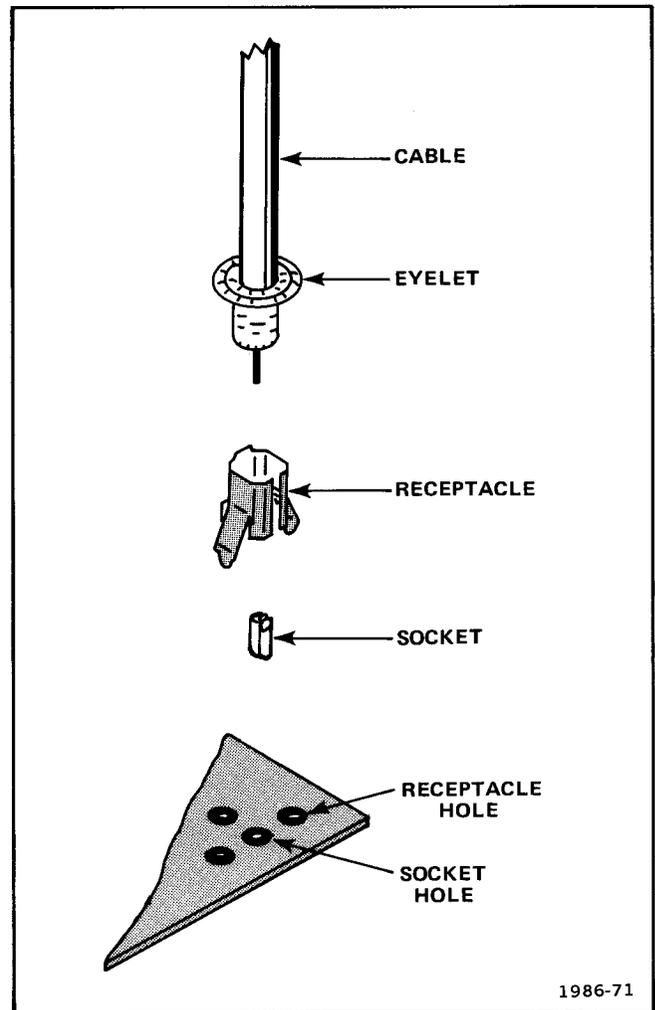

Fig. 4-8. Coaxial end-lead connector assembly.
4. Note wire color on single-conductor shielded cables (see Figure 4-8 for identification) and connector to which each is attached.
Three methods of interconnection are used to connect the circuit boards with other boards and components. When the interconnection is made with a coaxial cable, a special end-lead connector plugs into a socket on the board (Figure 4-8).